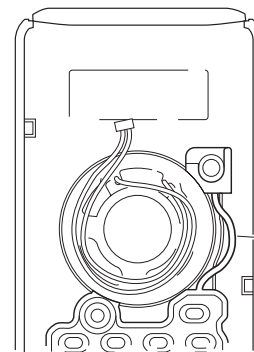

Fig. 8
- (2) Align the speaker lead as shown fig.8. Do not place the leads over the key top section, LCD section or SP/MIC/DC IN cap section.
- (1) Install the key top keypad section and the power switch section on the rib of the case assembly.
- (2) Do not fix the part between the key top keypad section and the power switch section to the rib of the case assembly, but install it as shown in Fig. 8.